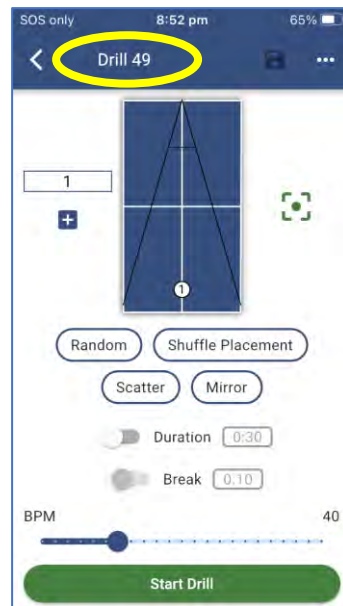

Figure 3-32
2. Push the “+” icon (bottom right). A new Drill will be created. If this is the first new Drill you are creating, it will be assigned the name Drill 49. (Figure 3-32) This is because the Application comes with 45 preset Drills plus 3 Test Drills (45+3=48), so the app will simply use the next highest number, for the next Drill name.